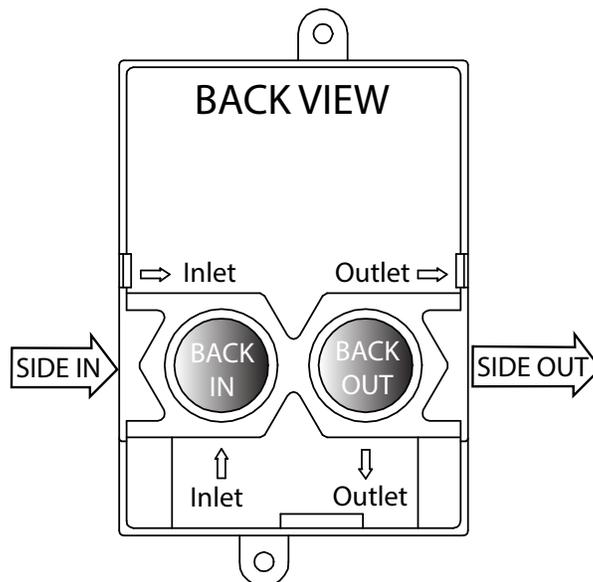
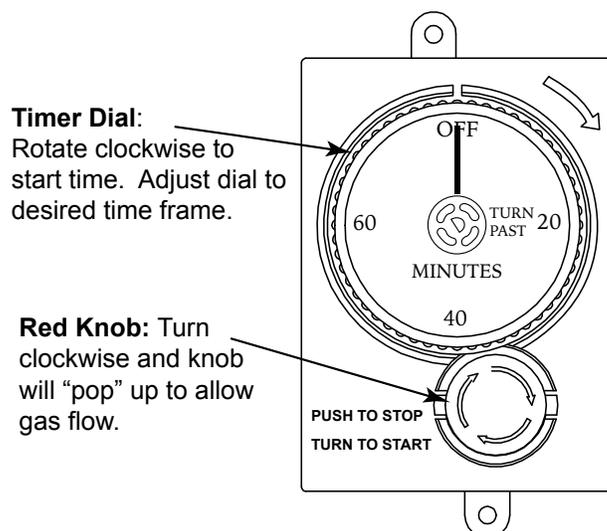
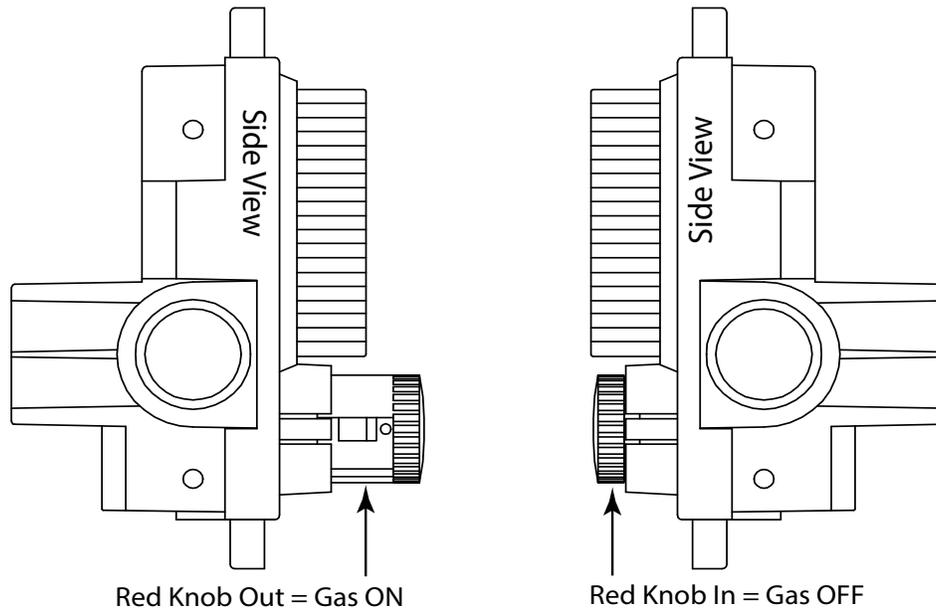

Fig. 2 Inlet and outlet connections.
Fig. 4 E-STOP operation.
Fig. 5 E-STOP Gas Timer red knob positions
The E-STOP is designed to be installed in an up-right position as shown in Fig 3, view "D" or Fig. 4. It has two (2) inlet and two (2) outlet gas connections. The diagrams below provide possible ways to plumb the E-STOP (See Fig. 3). Two (2) ½" NPT plugs are provided with the E-STOP. Plug the inlet and outlet connections not being used for the application. Connect gas supply to the inlet with the arrow  $\Rightarrow$  pointing into the valve. Connect outlet side to the gas appliance (See Figs. 2 & 3 for details).
**TO TURN OFF:** Let timer expire or simply press red knob inward until it stops. The red knob will lock down with a "click" and stop gas flow. See Fig. 4 and Fig. 5 on following page.